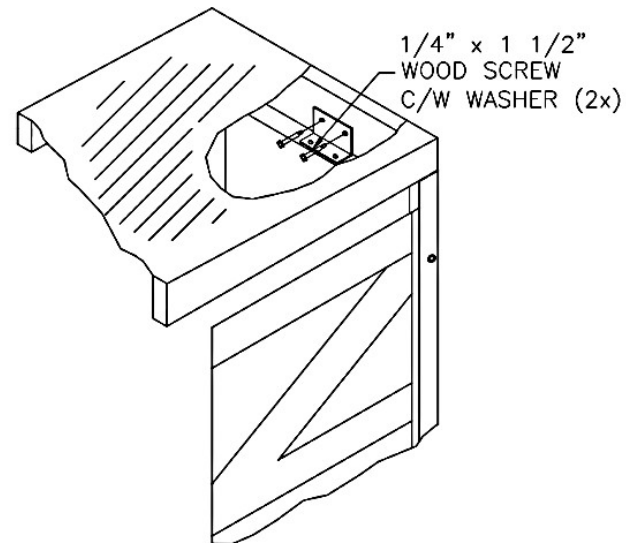

FIG 8B
c. Attach Head Frame to Vertical Frames (Figure 8b).